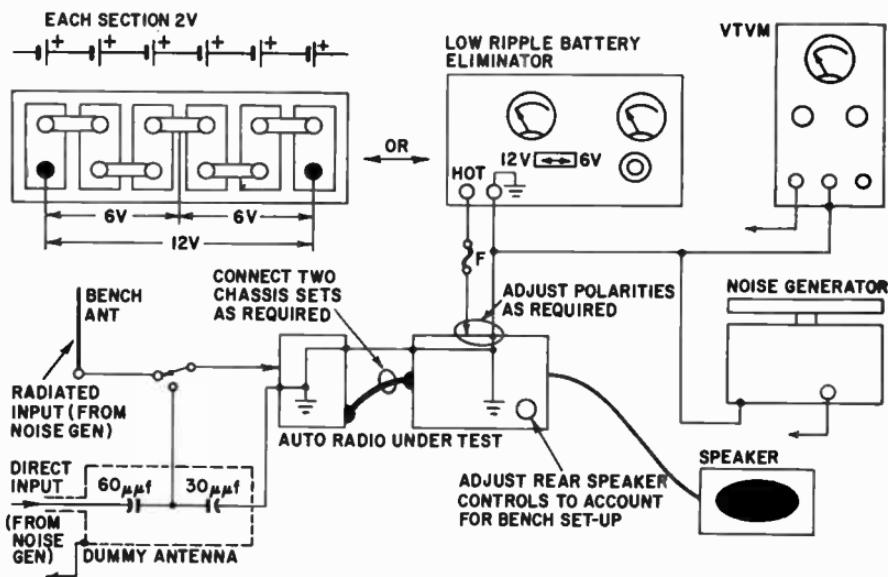

Fig. 510. Bench setup for servicing auto radios.
The bench servicing setup for auto radios is shown in Fig. 510. It is important that each of the items in the check list that follow be accomplished before proceeding.
7. Connect an antenna or dummy antenna (see Fig. 510) to the antenna input terminal.